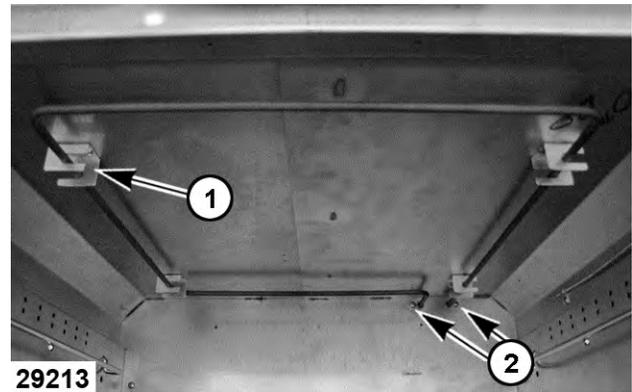

Fig. 12
2. Loosen element mounting brackets (1, Fig. 12).
3. Remove element mounting screws (2, Fig. 12).